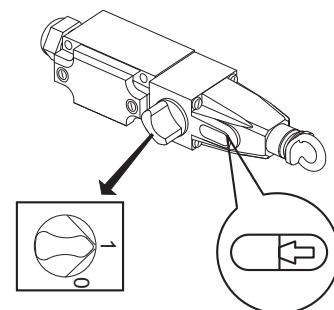

Figure 30 Release the emergency stop cord switch
- Turn the rotary switch on the emergency stop cord to position "1". See Figure 30.